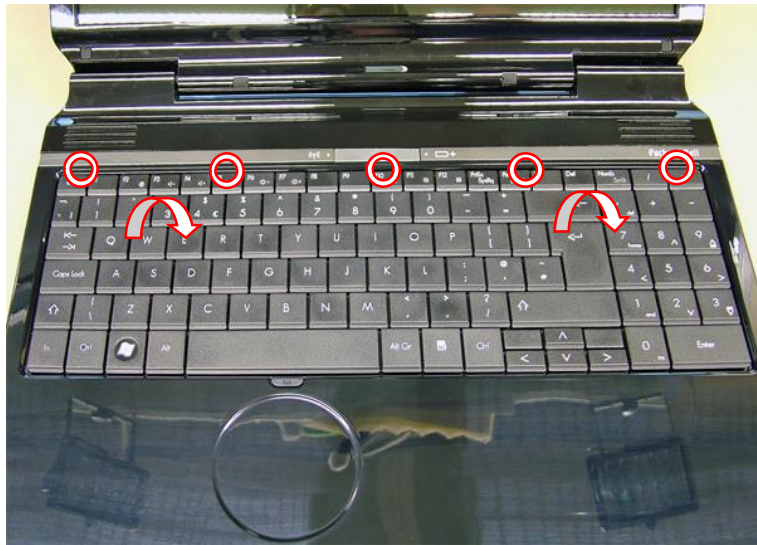

Fig. 11 Removing keyboard.
3. Tilt the keyboard gently forward and let it rest upside down on the touchpad (see Fig. 11).